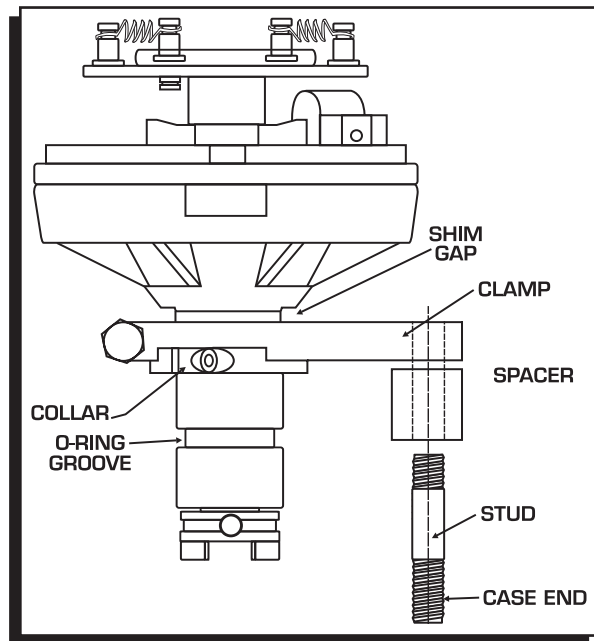

Figure 8 Measuring the Required Distributor Shims.
6. Install the collar and clamp to the distributor and snug the bolts (Figure 8). Install the distributor into the engine making sure that it bottoms out on the driveshaft.
8. With the remaining shims, make a stack that fits the gap between the clamp and the distributor housing (Figure 8). It is recommended to use a shim stack that is slightly thicker than the gap up to 0.005" however, it may be 0.002" thinner.